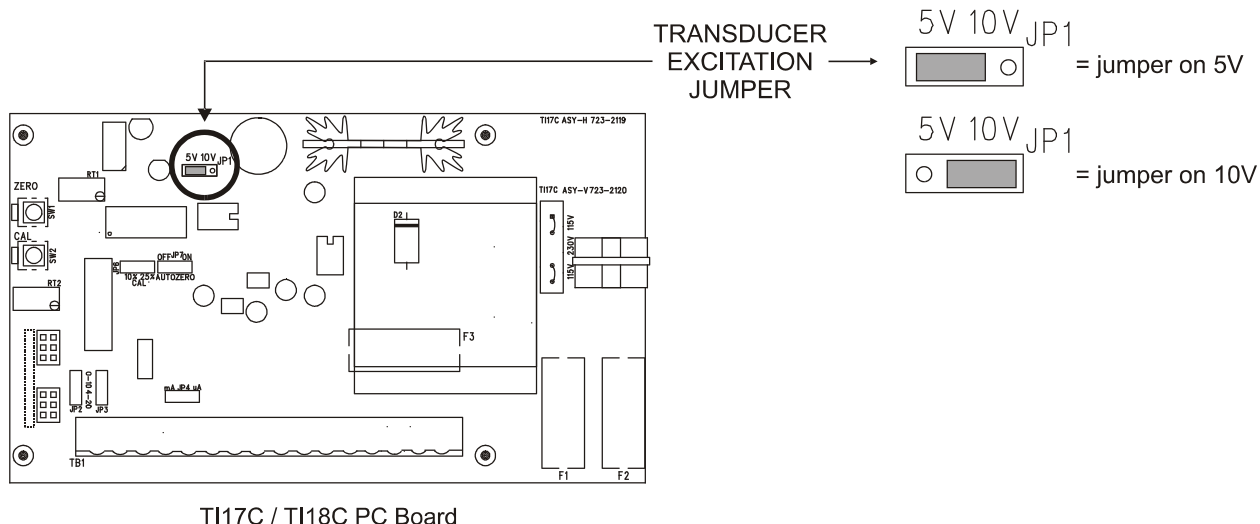

Figure 8 - TRANSDUCER VOLTAGE JUMPERS
2.5 TRANSDUCER VOLTAGE SELECTION (Refer to Figure 8)